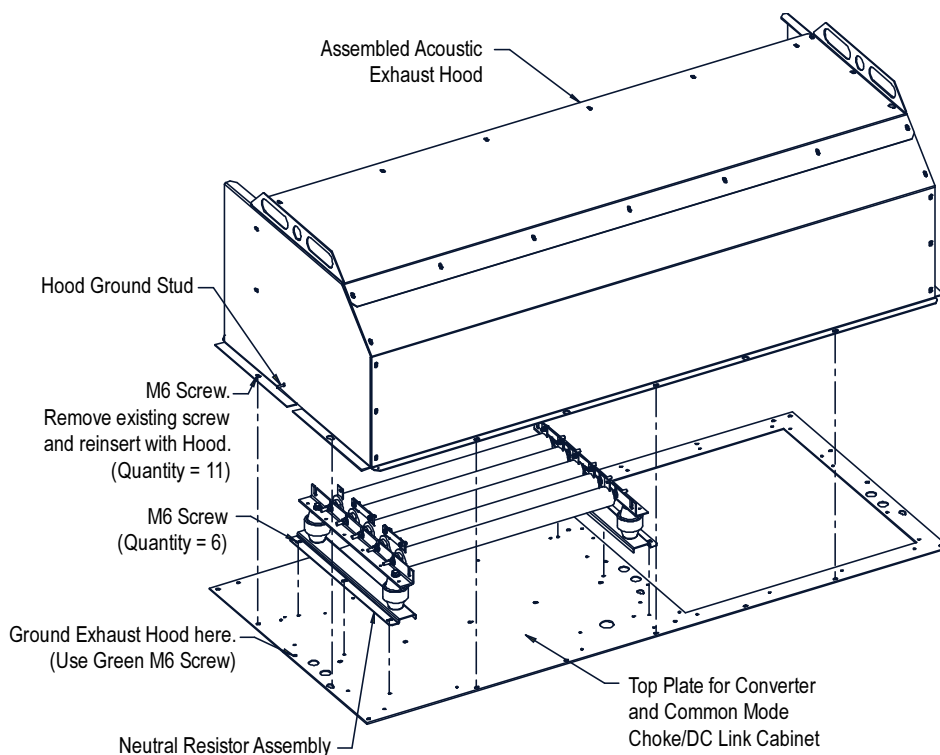

Figure 2.10 – Acoustic Hood Assembly for Neutral Resistor
1. Locate the resistor assembly on top of the cabinet as shown in Figure 2.9. (For acoustic hood assembly, refer to Figure 2.10.)